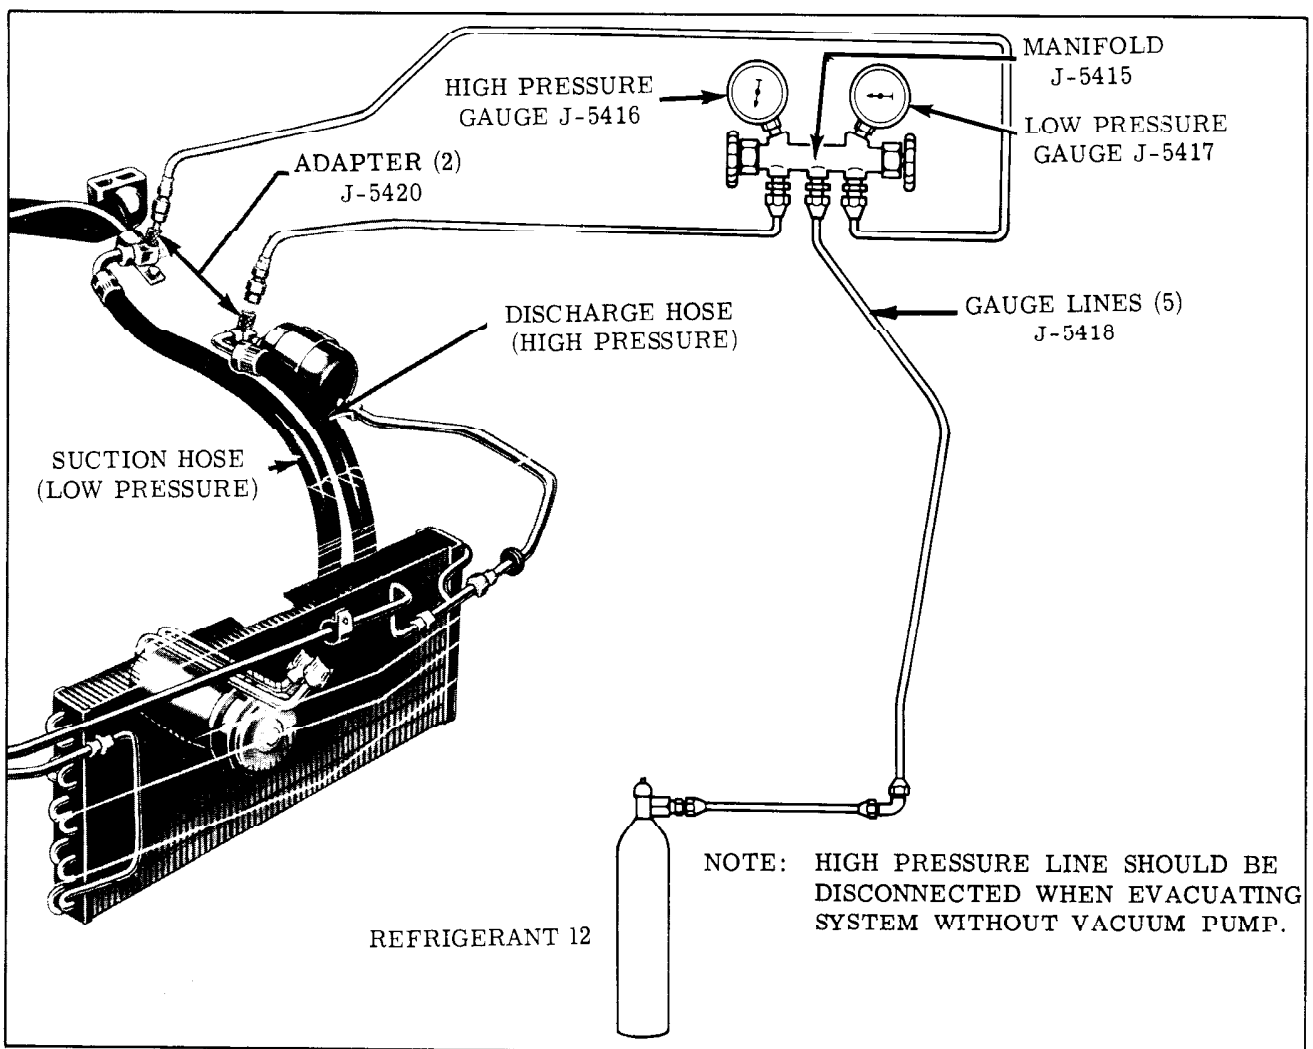

Fig. 14-40 Evacuating System without Vacuum Pump
12. Connect gauge set as shown in Fig. 14-40. Be sure the hand shut-off valve caps are replaced after the gauge set is connected.